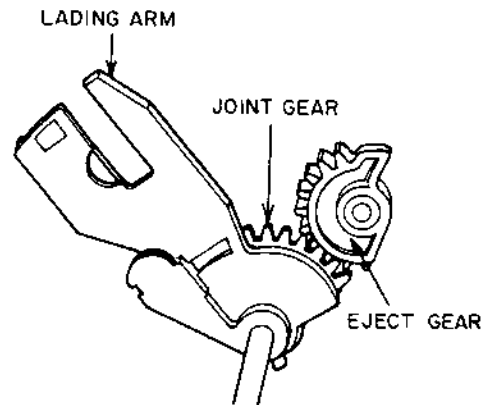

Fig. 4-18
- 1) While covering the **SENSOR (S)** with your fingers, connect the **AC power plug** to the **AC socket**. The **FRONT LOADING SLIDER** will reach the "EJECT" position. Then disconnect the **AC power plug** from the **AC socket** before you release your fingers from the **SENSOR (S)**.
- 2) Install the **LOADING ARM BLK** in the reverse order of 4-1-2 (Removal of the **LOADING ARM BLK**). Set the position between both the **EJECT GEAR** and the **JOINT GEAR** as shown in Fig.4-18.